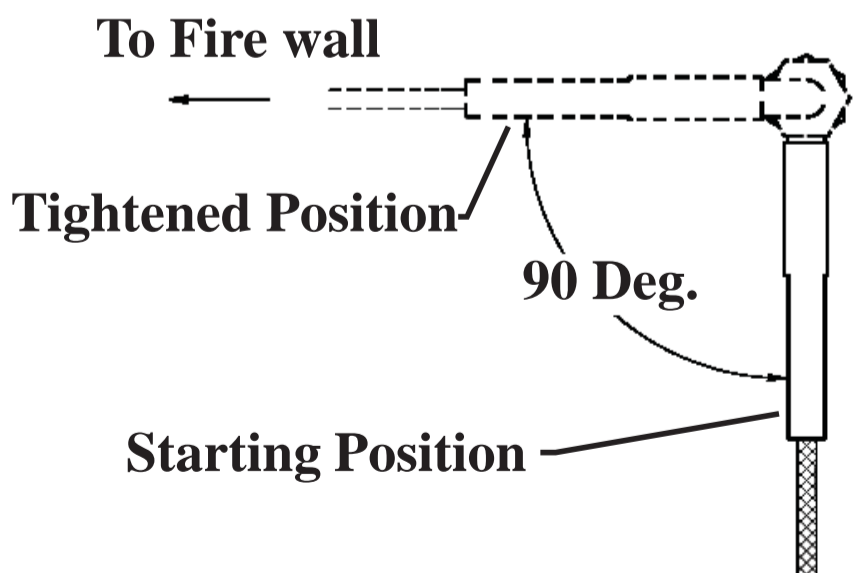

Figure 8 - 90 DEGREE
**NOTE:** The probe will move approximately 90 Deg. clockwise in the direction the nut is tightened. Before fully tightening the nut, make sure the cable starts 90 Degrees from the final resting position. When tightened the cable will be correctly positioned. (Figure 8)